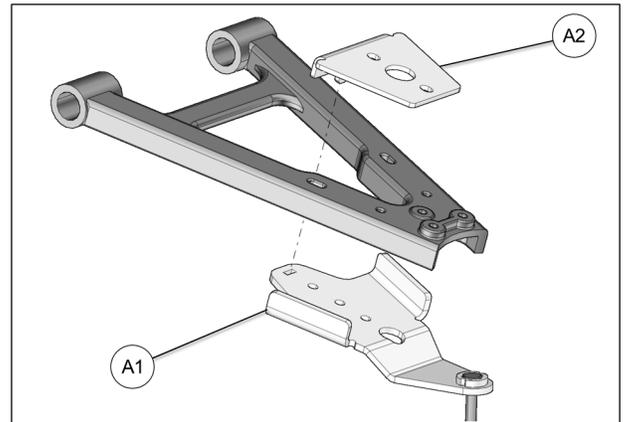

Fig. 19
5. Position bottom part of anchor bracket (A1) under lower suspension arm. Position top part (A2) over suspension arm and insert tenon in mortise cut in bottom part. Refer to Fig. 19